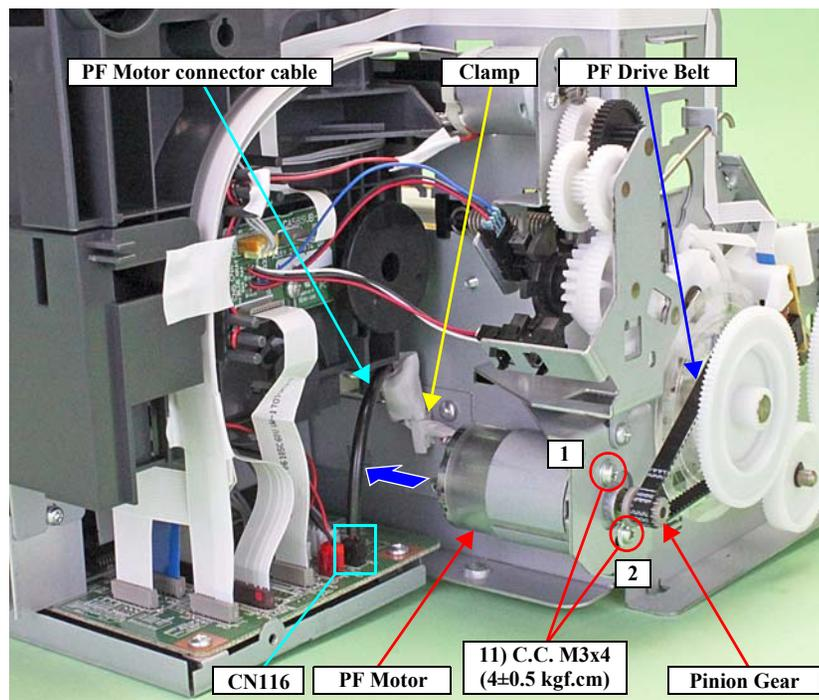

Figure 3-145. Removing the PF Motor
- Tighten the screws in the order shown in Figure 3-145